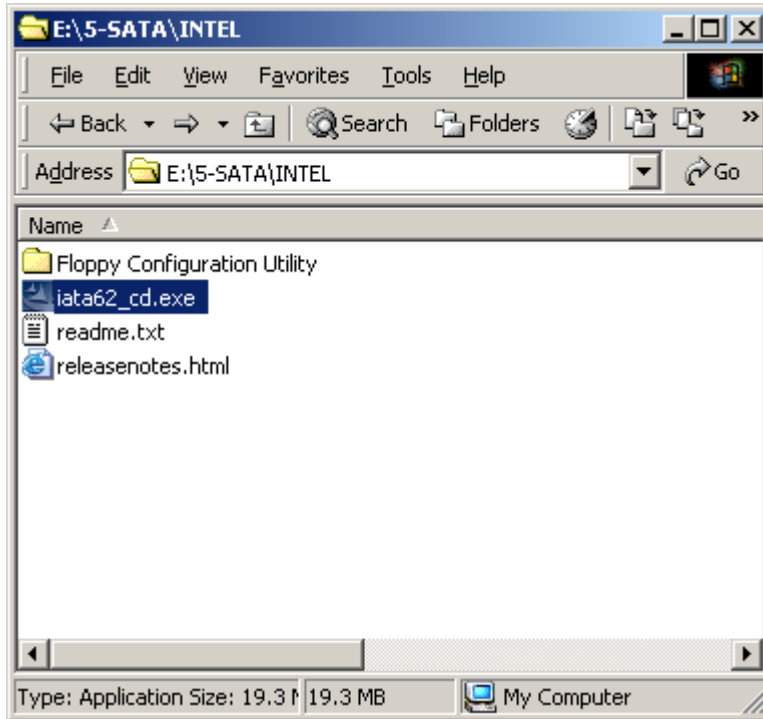

Figure 6-24: SATA RAID Setup Program Icon
Step 3: Double-click the `iata62_cd.exe` program icon in **Figure 6-24**.